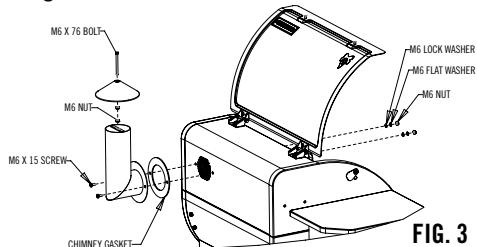

FIG. 3
1. Install chimney to grill as shown in Fig 3. Make sure to install the gasket between the grill and the chimney.
3. Install M6 x 76 Bolt through chimney cap and secure using Qty (1) M6 nut. Thread second nut onto bolt leaving approximately 1.5" to the top of the cap. Thread cap assembly down into the chimney bracket until the lower nut hits the bracket. See Fig 3.